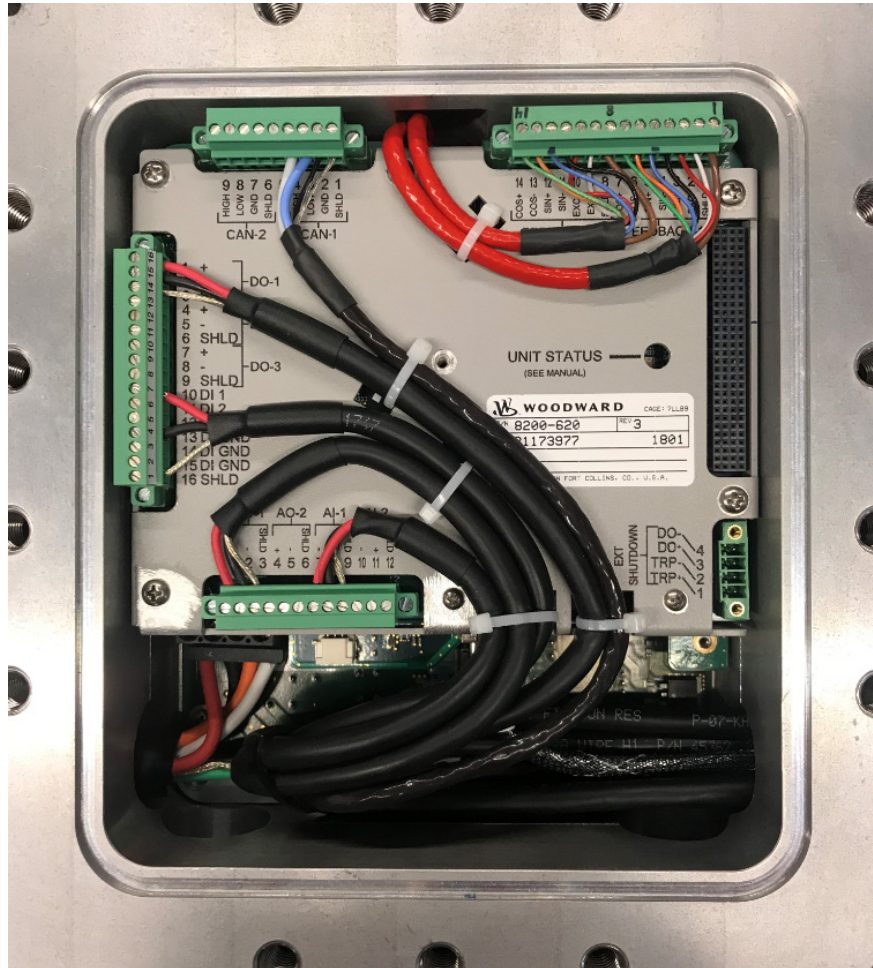

Figure 3-8. Wiring Tie Down Points Example
- Connect all wires as shown in the Control Wiring Diagram(s) for the appropriate GS valve type (Figures 3-7a-d and Figure 3.8).